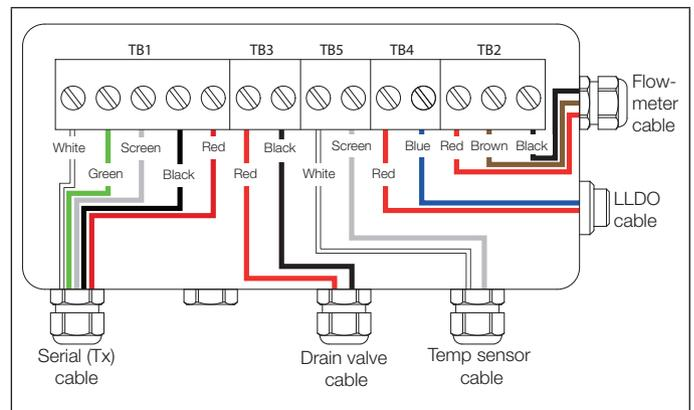

Fig. 6.2 Cable connections to transmitter – ADS551
5. Carefully offer PCB assembly (D) up into the flowcell PCB housing and tighten 2 PCB fixing screws.
6. Remake cable connections (disconnected at step 3) – refer to Fig. 6.2 and Table 6.1 for terminal connections.
8. Refit, or for new items, fit flowcell PCB housing gasket (C) and cover (B) using 4 PCB cover fixing screws and washers (A). (Ensure flowcell PCB gasket (C) is located correctly.)